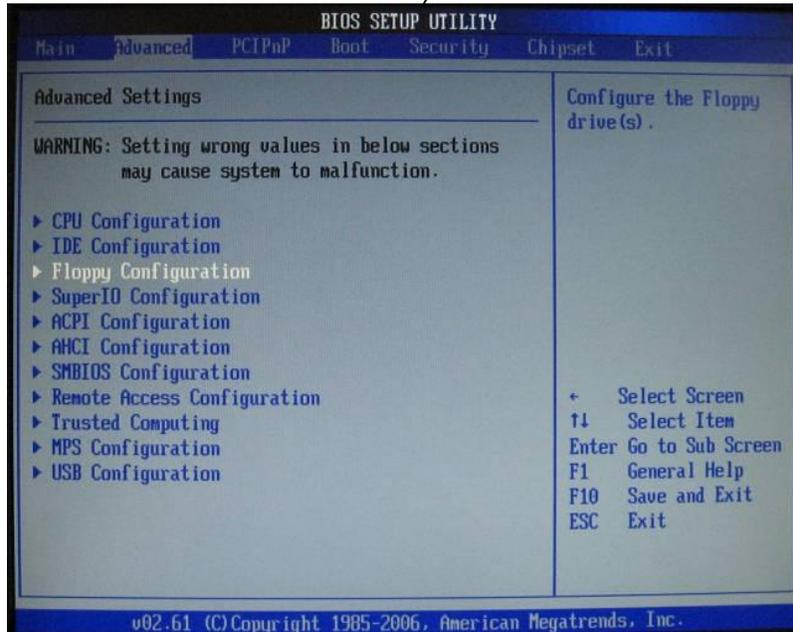

Figure 8-16 Floppy Configuration Page
6. On **Advanced Settings** screen Scroll down to **Floppy Configuration**, Press **Enter**. (Figure 8-16).